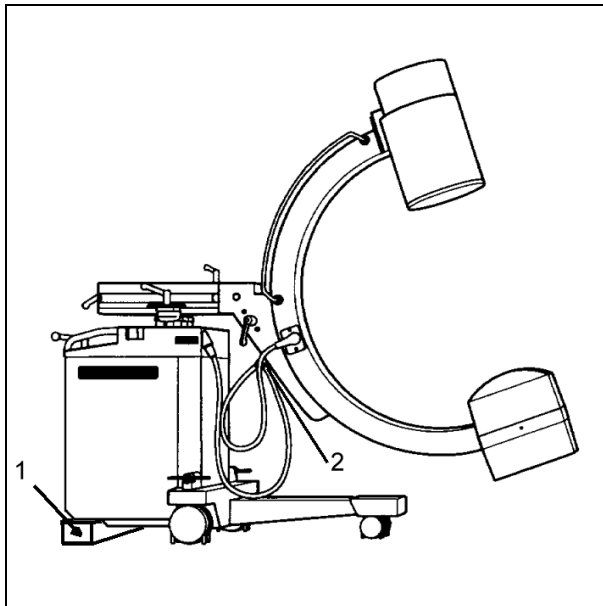

Fig. 1
Push a wooden block or other stable object of sufficient height centrally under the basic unit (Fig. 1/1).
- Unscrew the cable holder on the C-arm support (Fig. 1/ 2).